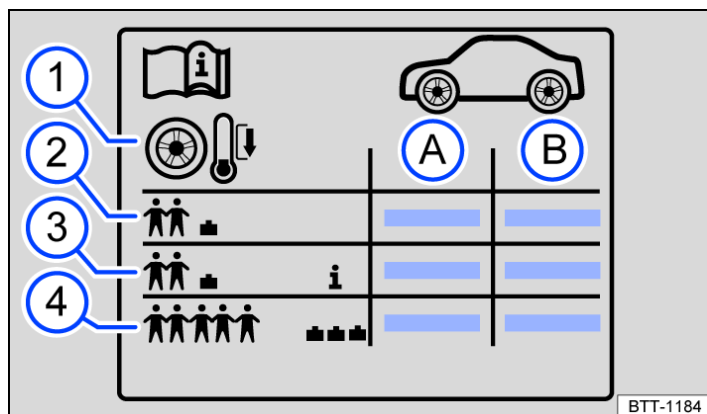

Fig. 1 Symbols on the tyre pressure sticker.
- Always adjust the tyre pressure to the load level → *Fig. 1*.
Depending on the vehicle, the tyre pressure sticker may show details of a comfort tyre pressure→ Fig. 1. The comfort tyre pressure allows increased driving comfort. Energy consumption may increase when driving with comfort tyre pressure.